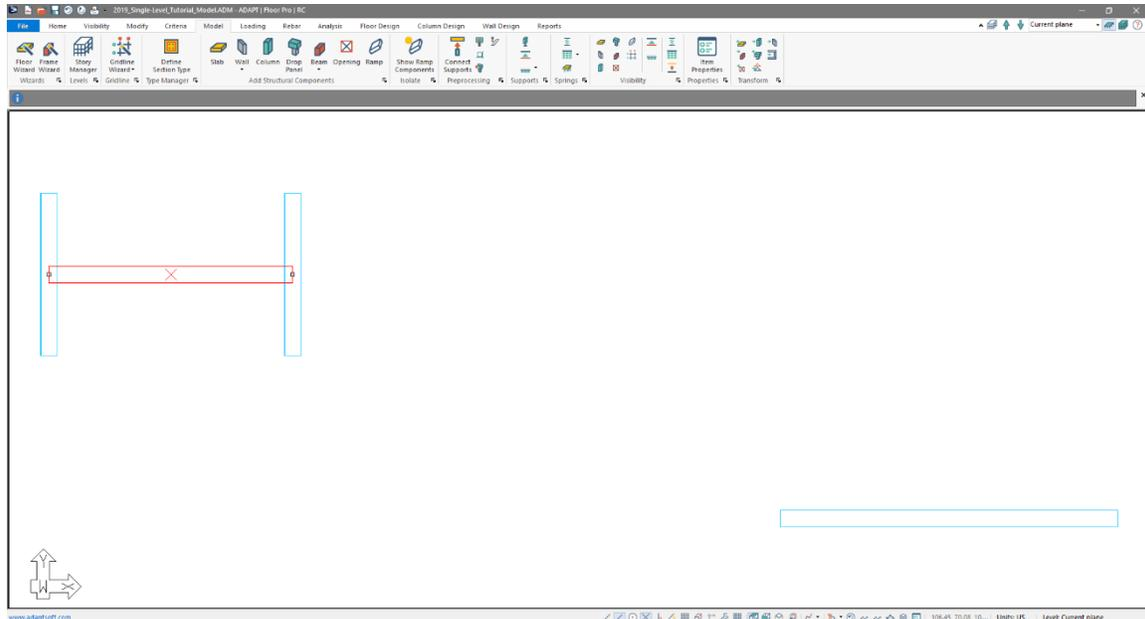

Figure 2-33
- The user should now see a screen similar to that shown in **FIGURE 2-33**.